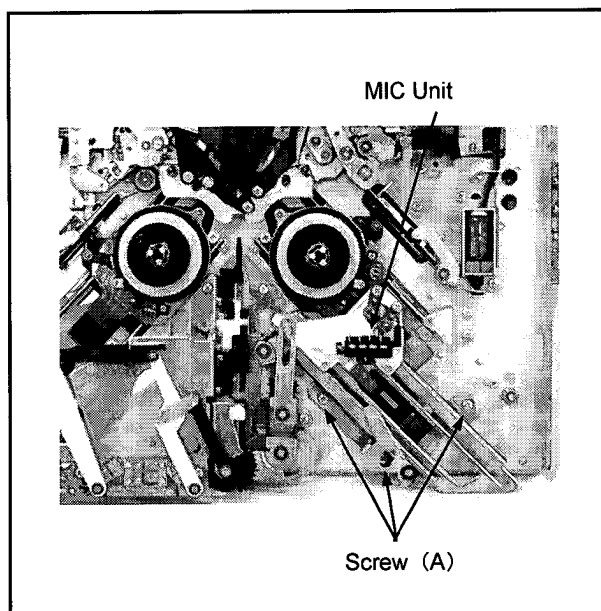

Fig.4-22-1
2. Unscrew the 2 screws A, and remove Take-up Brake Solenoid Base Unit as shown in Figure 4-22-1.
3. Remove the 3 screws (A) and the MIC Unit. (Fig. 4-22-1)